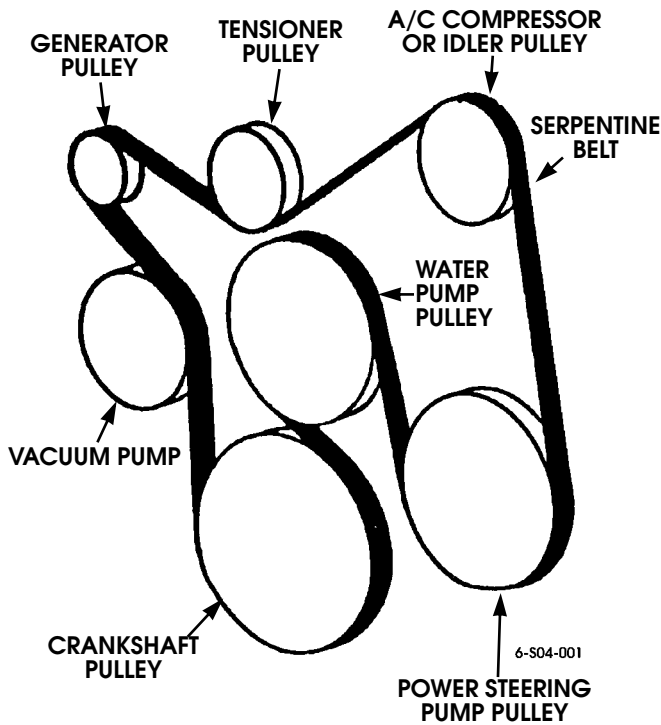

Figure 4-35: Serpentine Belt Routing
2. Remove belt from pulleys (Figure 4-35).
3. Position half-inch drive breaker bar in belt tensioner and move tensioner counterclockwise and position serpentine belt on pulleys as shown (Figure 4-35).